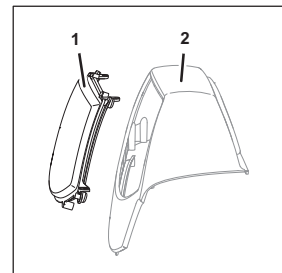

Fig. 41
13. Remove the rear promotional pane (Fig. 41/1) from the taxi cab hood (Fig. 41/2).
18. Position the rear promotional pane (Fig. 41/1) within the taxi cab hood (Fig. 41/2).